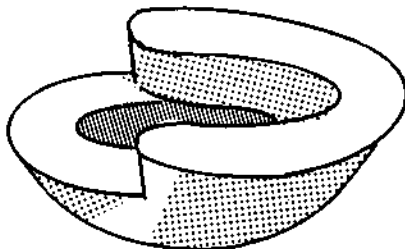

FIGURE 15. CLAY TRAP
2. Shape the under side by hand with a trowel using Figure 15 and the insert profile from Figure 17 as guides. Mark the location for a 19mm (3/4") square metal pipe by holding the clay trap over the clay mound used to shape the bowl mold, and letting the square sheet metal cube mark the trap.
from inside. See Figure 15. Check the clay trap on the bowl mound again to be sure it lines up properly.